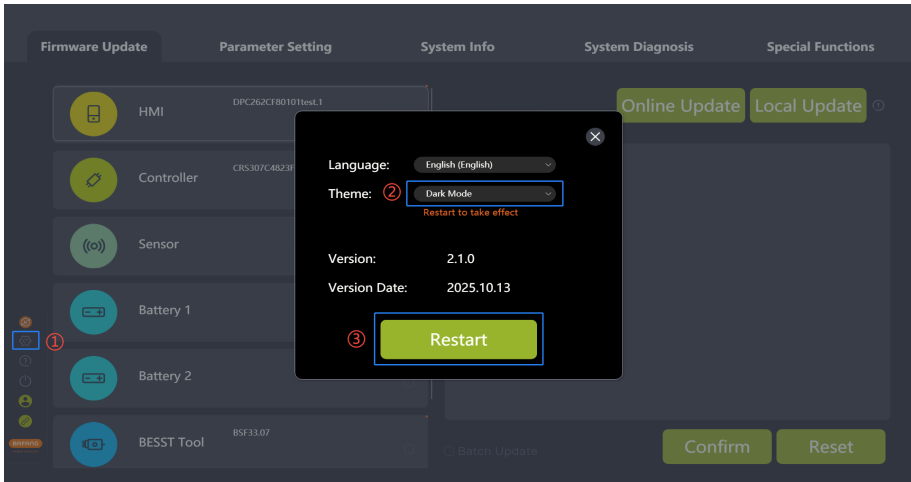

Fig 9-4 Theme
2. Select your desired theme in the drop-down list (Figure 9-4).